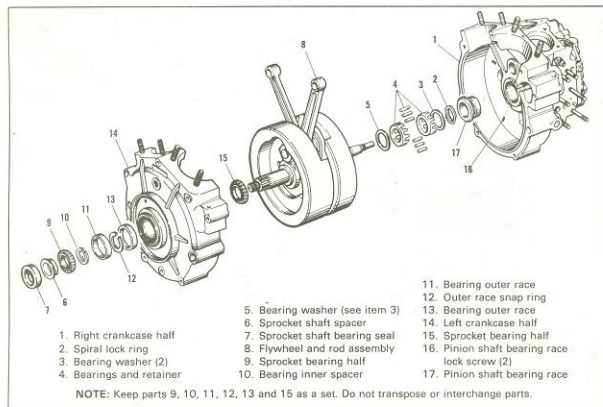

Figure 3-36. Crankcase - Exploded View
Refer to Figure 3-36 and continue disassembly:
3. Examine pinion shaft and right crankcase bearing race (see 17, Figure 3-36) for pitting, grooving and gouging at point where right main roller bearings ride. A shaft that is worn must be replaced. If bushing is worn beyond repair, replace as described in "Truing and Sizing Pinion Shaft Main Bearing."
A race that is worn beyond limits of oversize bearings must be replaced. To remove worn bearing race, remove two bearing race lock screws (17, Figure 3-36) from inside of case. Heat case to 275-300 degrees F. Heating expands case and makes it possible to remove bearing race using less force. Press worn race (18, Figure 3-36) out and new race in. New race must be lapped slightly to true and align with left case bearing, and to attain a size compatible with roller sizes available.